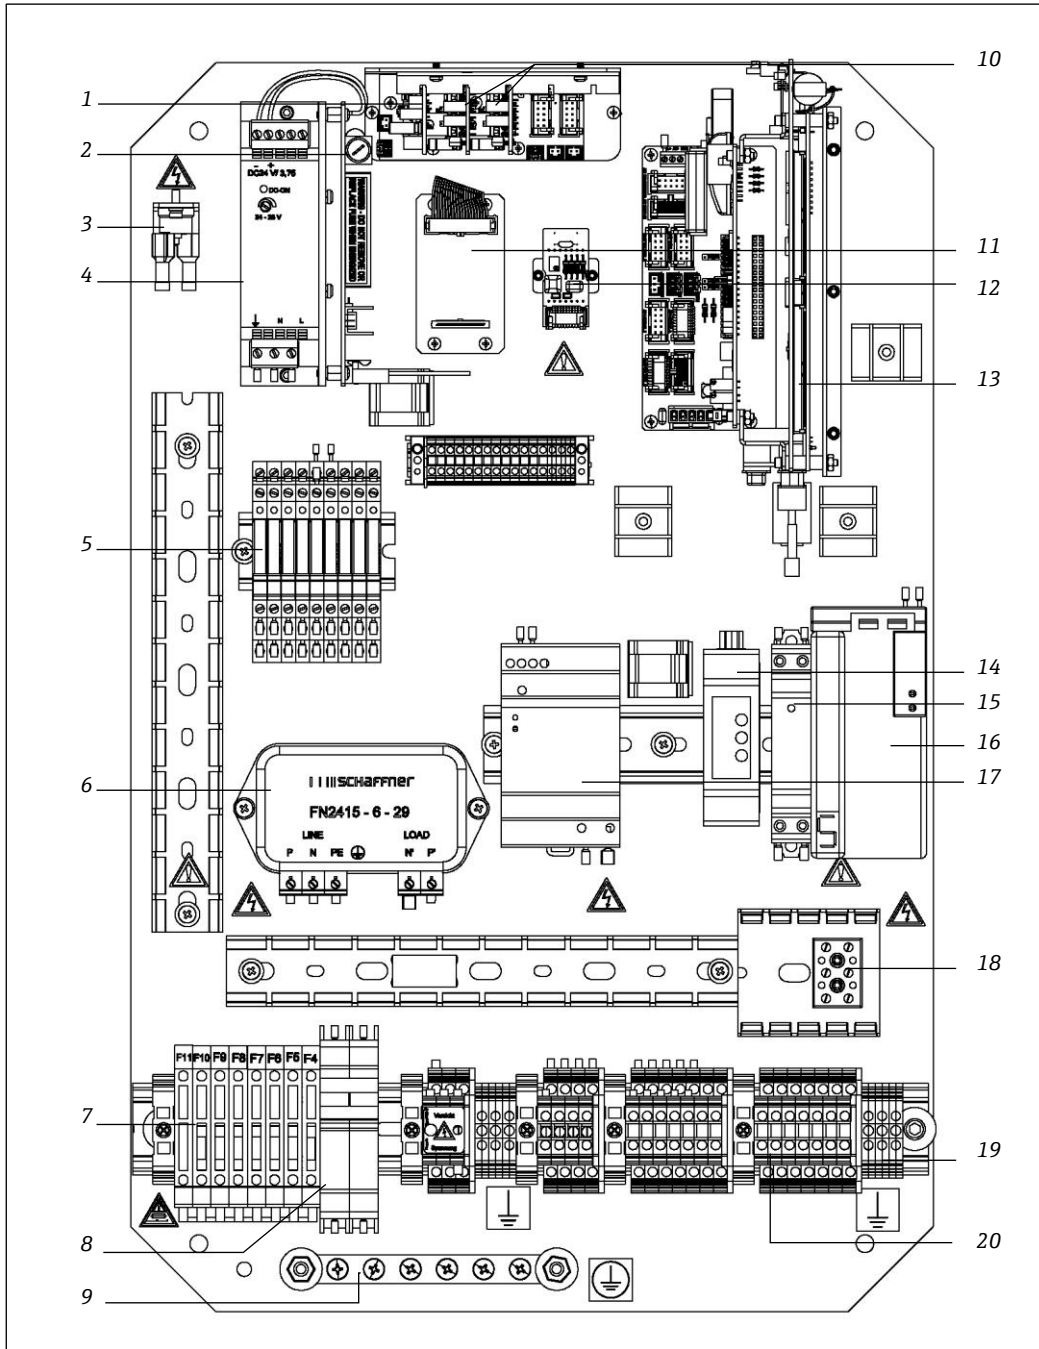

Fig 7. Components in SS2100i-2 electronics enclosure
- ▶ See Fig 7. Components in SS2100i-2 electronics enclosure for locating fuses. If you need to replace a fuse, use only the same type and rating of fuse as the original as listed in the tables below.